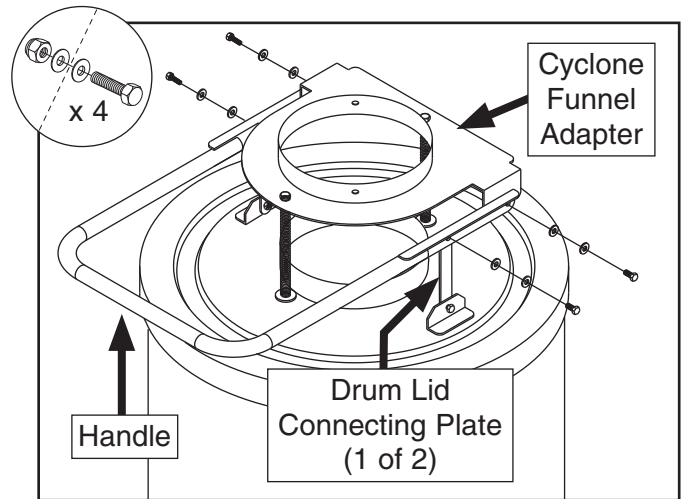

Figure 24. Collection lid handle attached to connecting plate and adapter.
23. Attach collection lid handle to cyclone funnel adapter and drum lid connecting plates with (4) $\frac{3}{8}$ "-16 x 1" hex bolts, (8) $\frac{3}{8}$ " flat washers, and (4) $\frac{3}{8}$ "-16 lock nuts (see **Figure 24**).